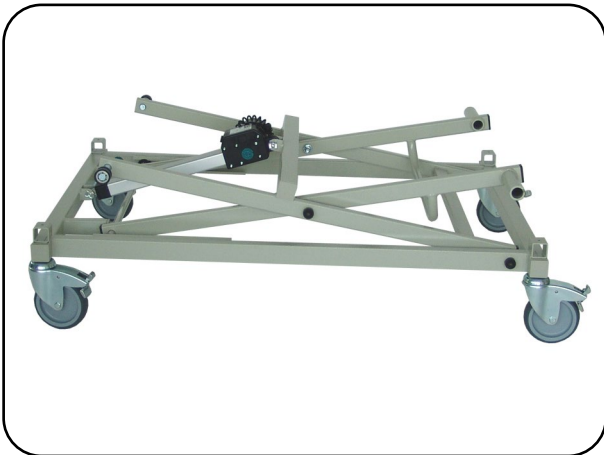

Fig. 6.1.01 – Scissor lift
1. Place the scissor lift with the castors on the floor and brake the castors (see chapter on Operation, section **Castors**) (Fig. 6.1.01).